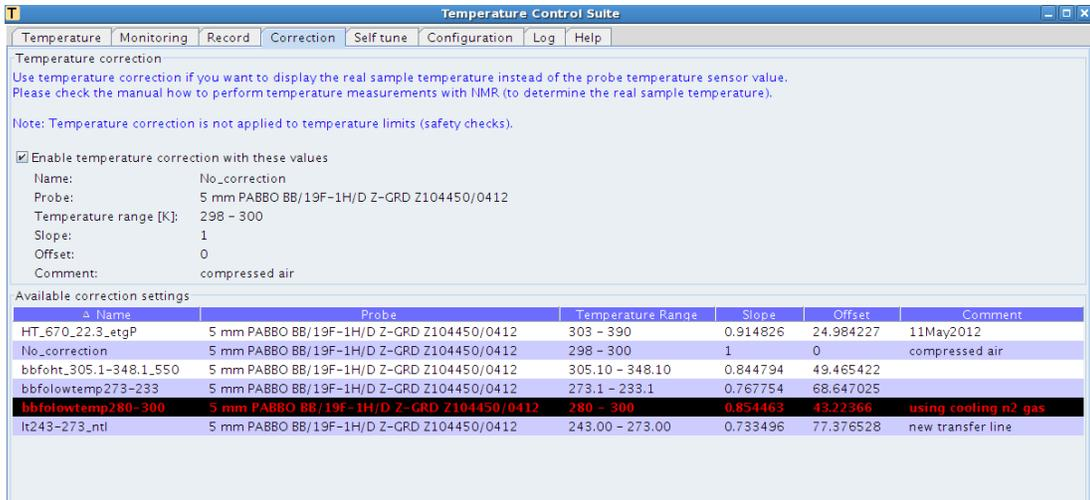

Figure 18: Selection of Correction Parameter Settings
- Click on Correction Tab of the Temperature Control Suite, select a correction file that suitable to the target temperature. In this example, a file “*bbfolowtempertaure280-300*” is selected (Figure 18). Click on **Set** button to continue.
2. In **Correction** Tab of the Temperature Control Suite (see Figure 18), first select the correction file of “*RT_510_NoCorrection*” and then click on **Set** to load the parameters.